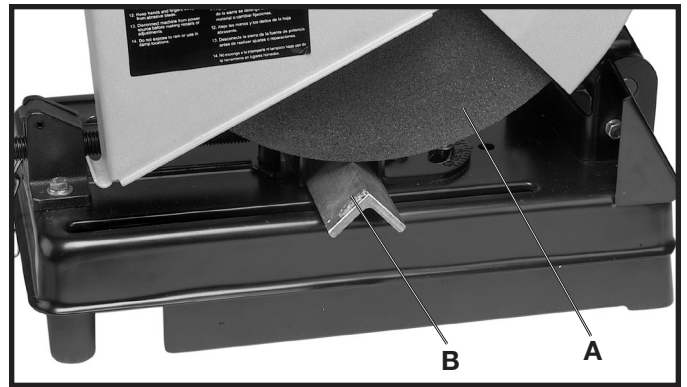

Fig. 17
After clamping the workpiece securely in the vise, turn the machine on and allow the motor to come up to full speed. Lower the wheel (A) lightly until it comes into contact with the workpiece (B), as shown in Fig. 17.